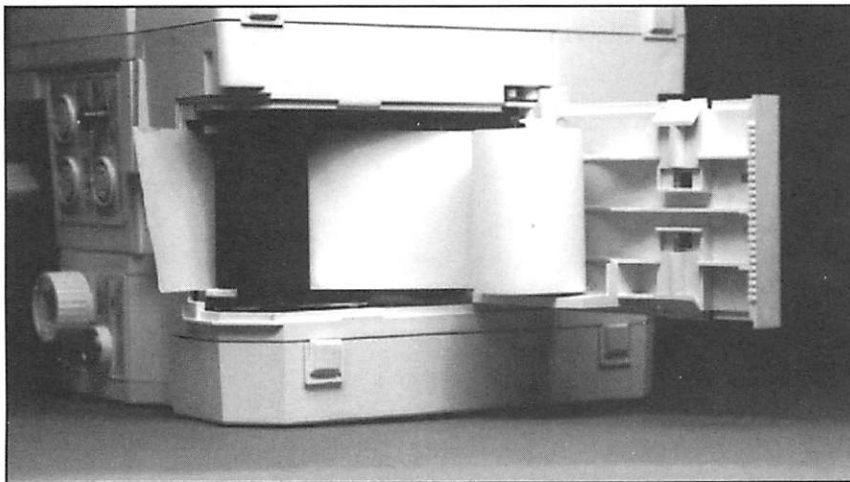

Figure 5-3. Printer paper feed
- 11 Slide the end of the paper into the slot of the printing mechanism until it extends out of the paper exit slot (Figure 5-3 on page 5-13).